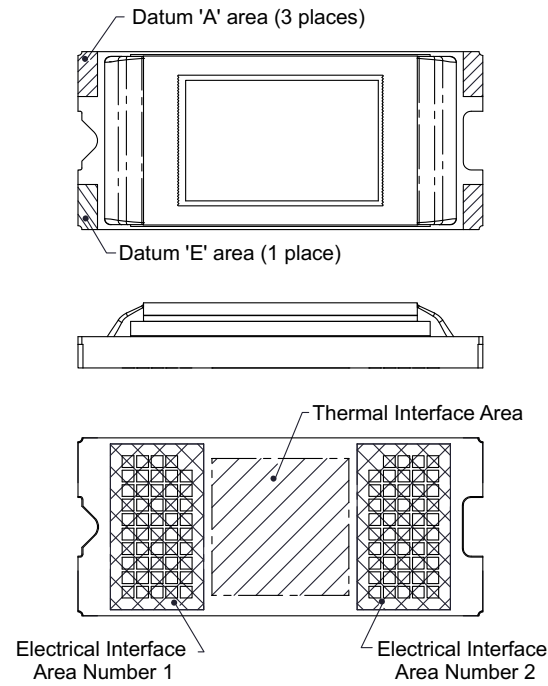

Figure 7-3. System Interface Loads for FQD
- (1) See and Figure 7-3 for diagrams.
- (2) See Mounting Concepts DLP4500FQD.